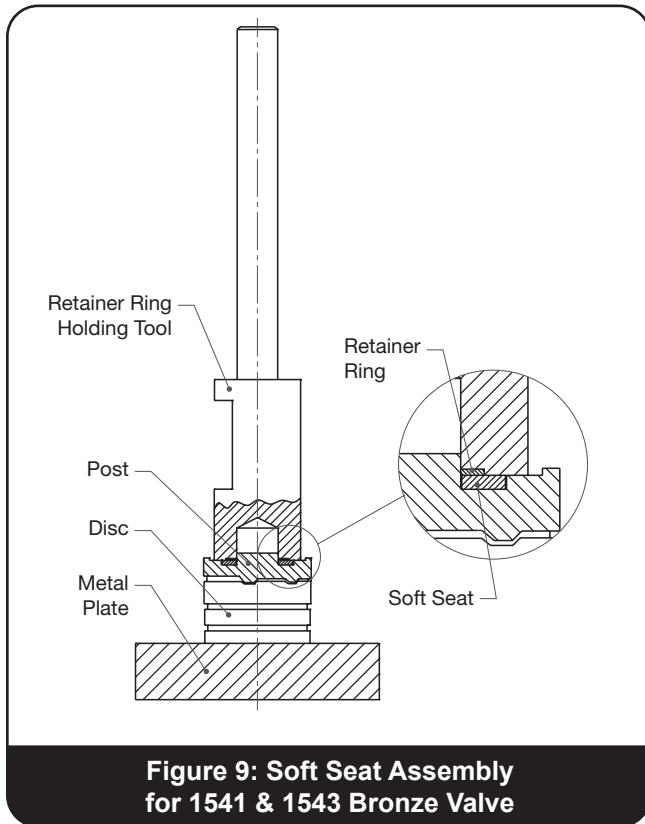

Figure 9: Soft Seat Assembly for 1541 & 1543 Bronze Valve
- a. Clean disc, put it on a metallic plate (See Figure 9). Disc surface having spindle pocket will lie on the metal plate.
- c. Pick-up an appropriate Retaining Ring and tool assembly (See Table 5). Place Retaining Ring on the Disc. Subsequently put tool assembly in the mechanical press (not shown in Figure 9). Provide slight force to position Retaining Ring over the post. After removing force and inspecting proper positioning of Retaining Ring, press the Retaining Ring again, hard enough, to move Retaining Ring down to hold the seat washer tightly. A properly assembled soft seat will be somewhat compressed by Retaining Ring.
(Defective part should be rejected). Put Washer on the Disc (See Figure 9).